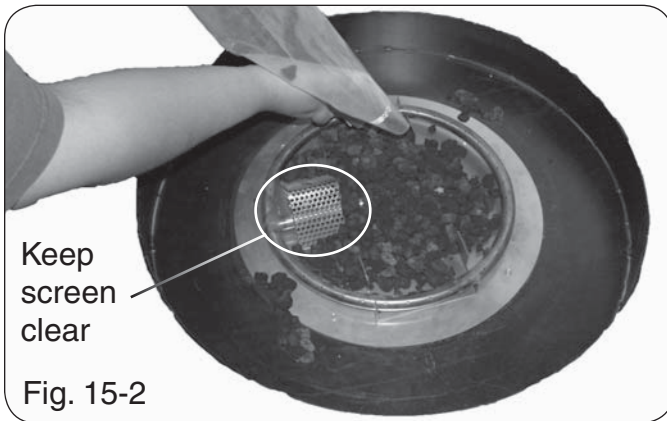

Fig. 15-2
1. Empty both bags of Lava Chunks into the burner pan (PARTS LIST, Item #8) and even it out without covering or blocking the ignitor screen (see Fig. 15-2).